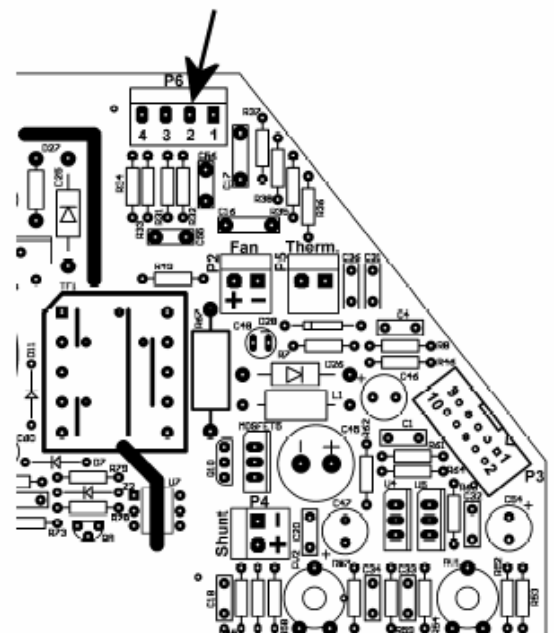

Fig 4 Connector Identification
20. Refit Voltage Boost pcb, and reconnect plugs, taking care that they are connected in the same position as before. Refer to Fig 4 for connections.